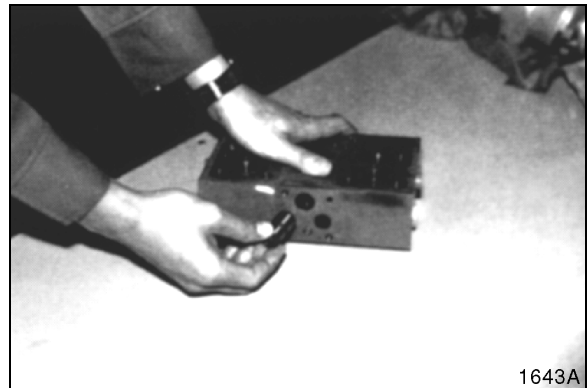

Figure 50
5. Remove piston and bushing. See Figure 50.